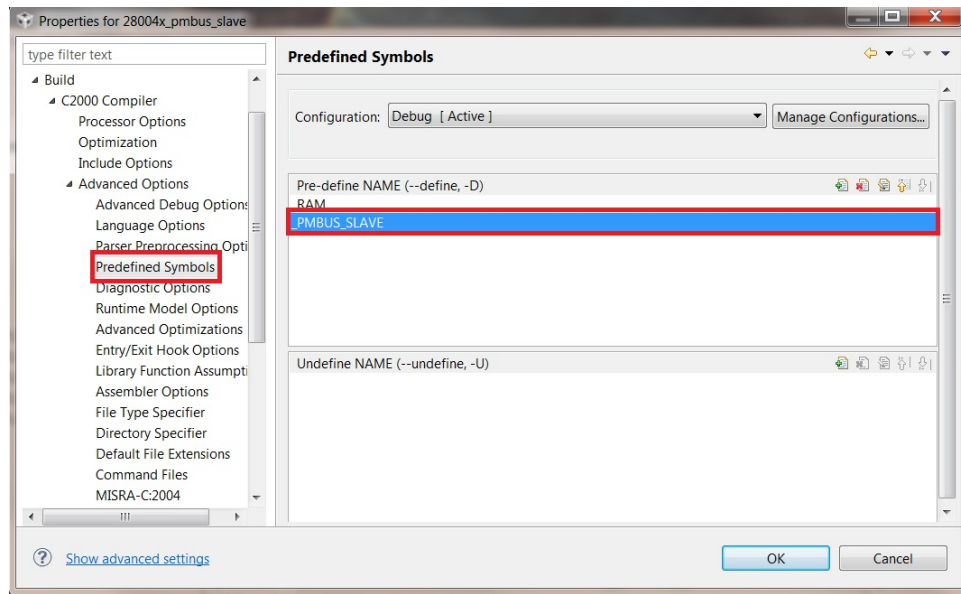

Figure 4.5: Compiler Predefined Symbols
3. For the slave device, define **_PMBUS_SLAVE** in the *Predefined Symbols* option under the C2000 Compiler menu, Fig. 4.5.